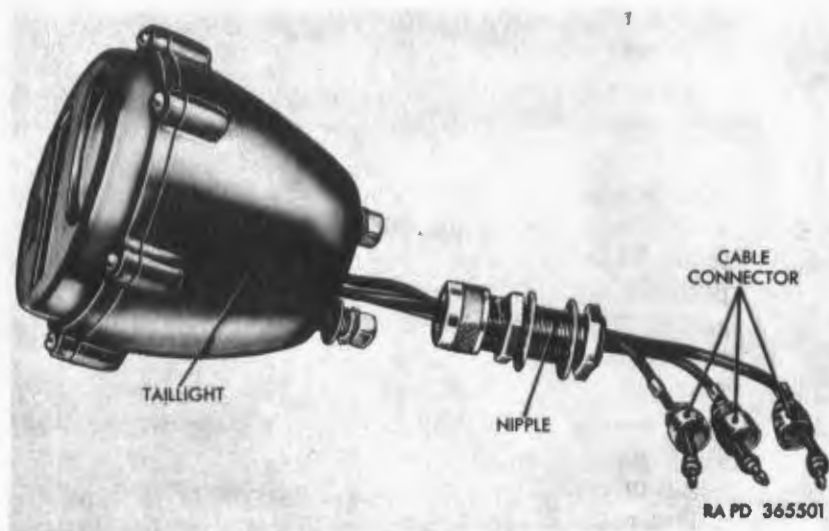

Figure 155. Taillight—removed.
- (1) *Removal.* Open left and right battery access doors (fig. 236). Disconnect single cable connector with circuit number marker 459B, from right battery set to render master relay inoperative. Remove tape covering taillight cable connectors and separate three cable connectors, with circuit number markers 21, 22, and 24, from left taillight or two cable connectors, with circuit number markers 23 and 24 from right taillight. Remove locknut and lockwasher from nipple (fig. 155) extending into hull from taillight. Slide nut and lockwasher off cables by working one cable connector at a time through the nut and lockwasher. Remove two hex-head bolts with integral lockwashers and flat washers securing taillight to mounting bracket inside guard and remove taillight.
- (2) *Installation.* Apply coating of gasket cement on threads of nipple (fig. 155). Position taillight in protective guard with cables and nipple inserted through opening in hull. Secure taillight to mounting bracket with two $\frac{3}{8}$ x $\frac{7}{8}$ hex-head bolts with integral lockwashers and $\frac{3}{8}$ -inch flat washers. Pass cable connectors through $1\frac{5}{16}$ -inch inter-
nal-teeth lockwasher and $1\frac{5}{16}$ -inch locknut. Install lockwasher and nut securely on nipple (fig. 155). Connect three cable connectors with circuit number markers 21, 22, and 24 on left taillight or two cable connectors with circuit number markers 23 and 24 on right taillight to corresponding cable connectors of wiring harness. Make sure that circuit numbers correspond. Connect single cable connector with circuit number marker 459B to right battery set. Perform test (a (3) above). Close battery access doors (fig. 236).